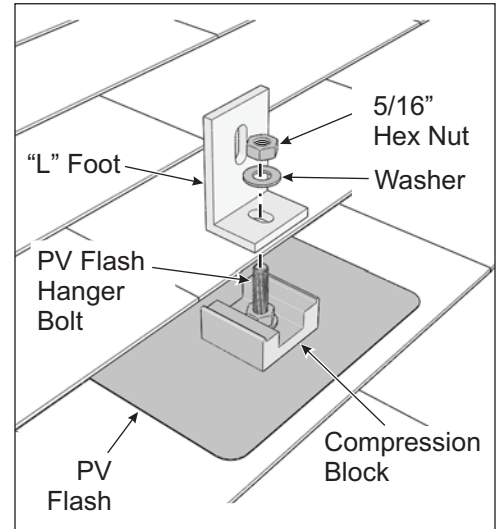

Figure 1-1: Attaching “L” Foot to the PV Flash
- B. Secure “L” Foot with 5/16” flat washer and hex nut. **Torque to 14-16 ft.-lbs.** (See Figure 1-1)